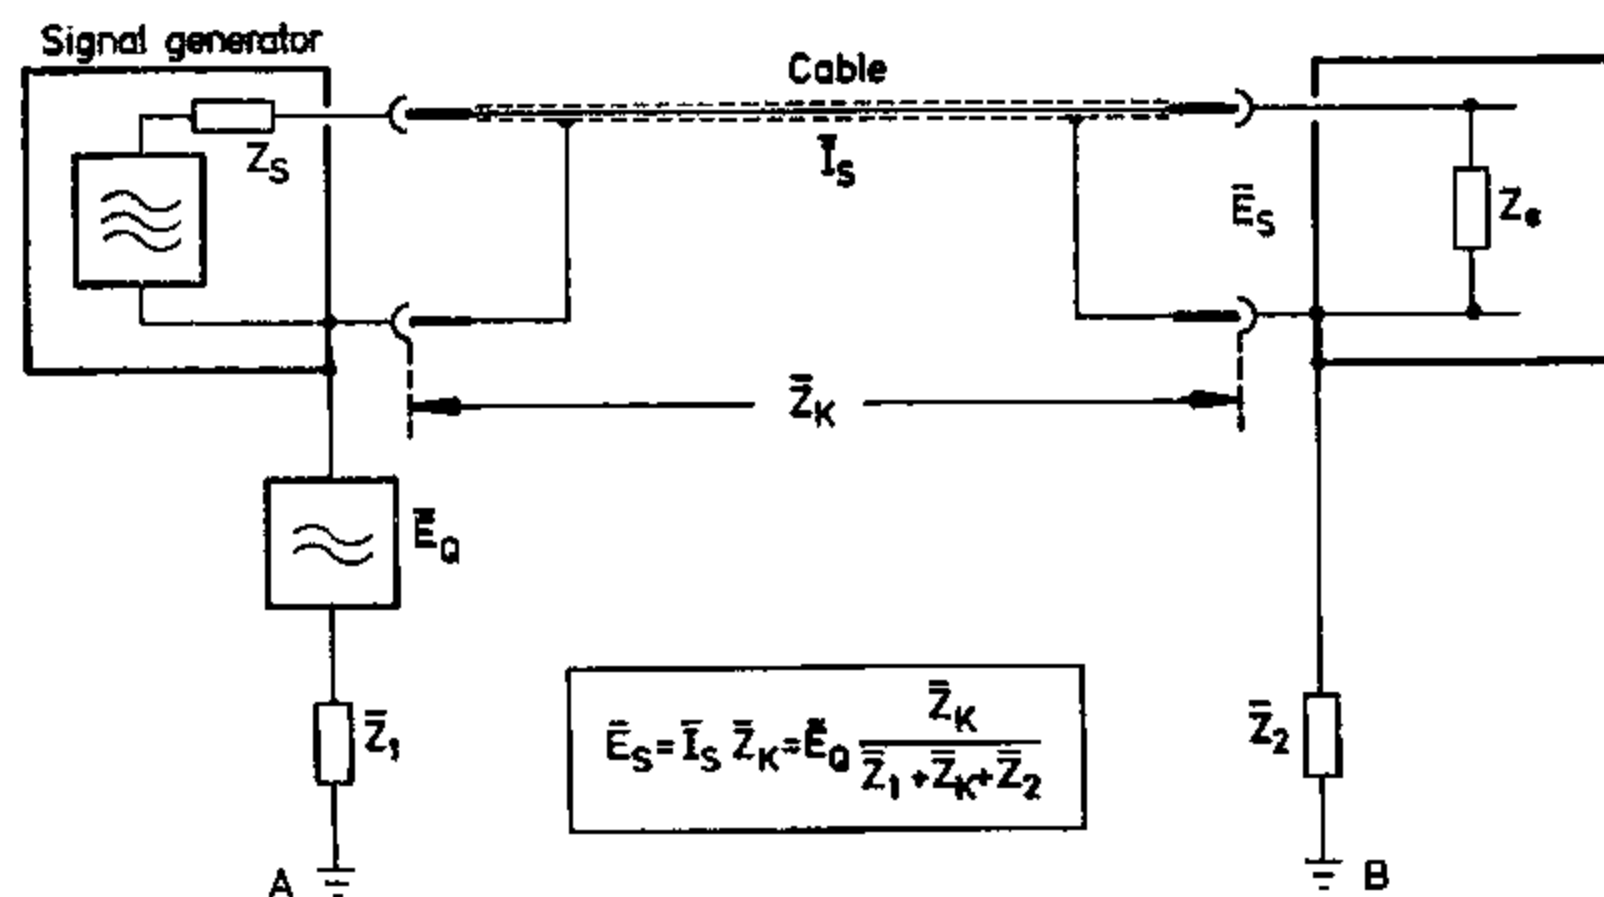

Fig. 2-4 Simplified equivalent diagram of noise voltage source
**Noise voltage sources:** Two types of noise voltage are distinguished by their sources: noise voltages developing from hum pickup and noise voltages caused by inductive leakage. Fig. 2-4 illustrates the development of a noise voltage. The noise voltage  $E_s$  is effective at the load input if the noise current  $I_s$  on the outer conductor of the cable with an impedance  $Z_K$  causes the voltage drop  $E_s = I_s Z_K$ . The noise voltage source  $E_Q$  is somewhere in the noise voltage loop formed by  $Z_1$ ,  $Z_K$  and  $Z_2$ .
The noise voltage source  $E_Q$  may exist between the earthing points A and B if the neutral conductor of the AC supply is at the same time used as a non-fused earth conductor. If the signal generator and the test item are earthed at different points of the AC supply, the voltage drop between A and B (Fig. 2-4) may also be caused by the power consumption of a third load. Noise voltages of a frequency of 50 Hz and its harmonics then result. The noise source can be avoided by minimizing the distance between points A and B (twin socket). Noise voltages can be induced in the hum-pickup loop  $Z_1, Z_K, Z_2$  by inductive leakage of power transformers or poorly shielded RF voltage sources. These noise voltages can be prevented by making the pickup loop as short as possible by suitable wiring.